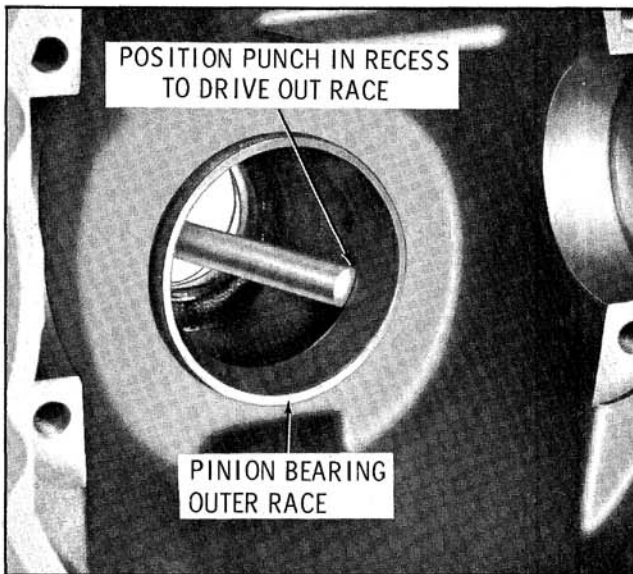

Fig. 10-21 Removing Pinion Rear Bearing Outer Race
3. If rear pinion bearing is to be replaced, remove outer race from carrier using a punch in slots provided for this purpose as shown in Fig. 10-21.